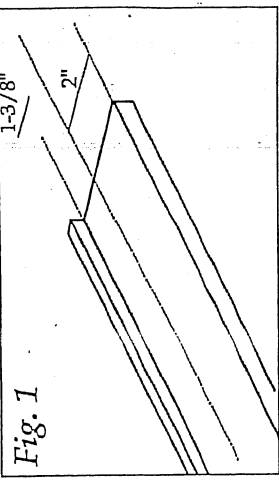

Fig. 1
2. Next, draw two lines parallel to the center line 1-3/8" from the center line (figure 1). This will align the 3/16" square outside rails. Glue two 3/16" x 24" rails (part 2) to the baseboard using the lines you've drawn as a guide. The inside edge of each rail will sit on the line. Your rails must be parallel, 2-3/4" apart.